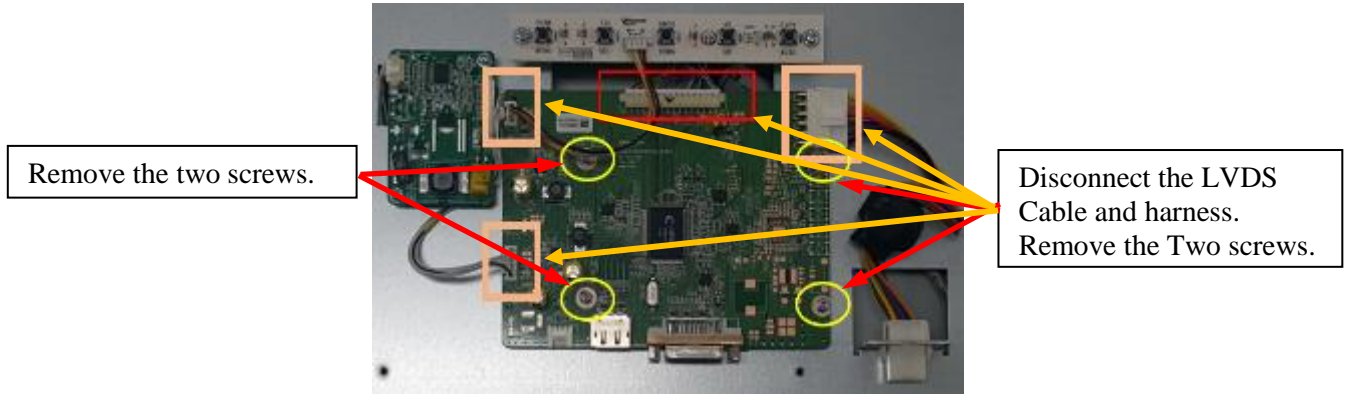

Figure 12 (69975405/KTS270DGI01)
2) Locate the A/D board as shown in Figure 12, 13